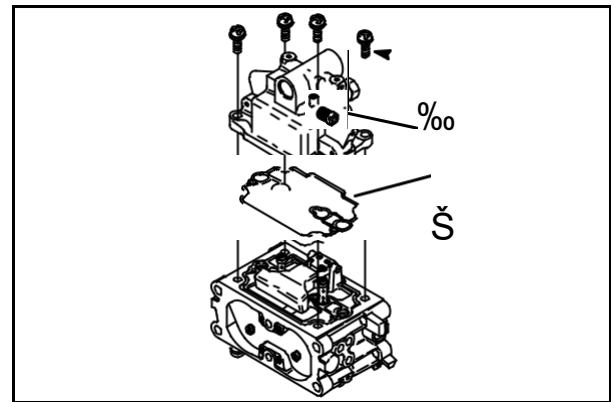

Fig. 62
Remove carburetor lower body screws (9). Lift lower body straight away from upper body, **Fig. 62**. Discard gasket (10).